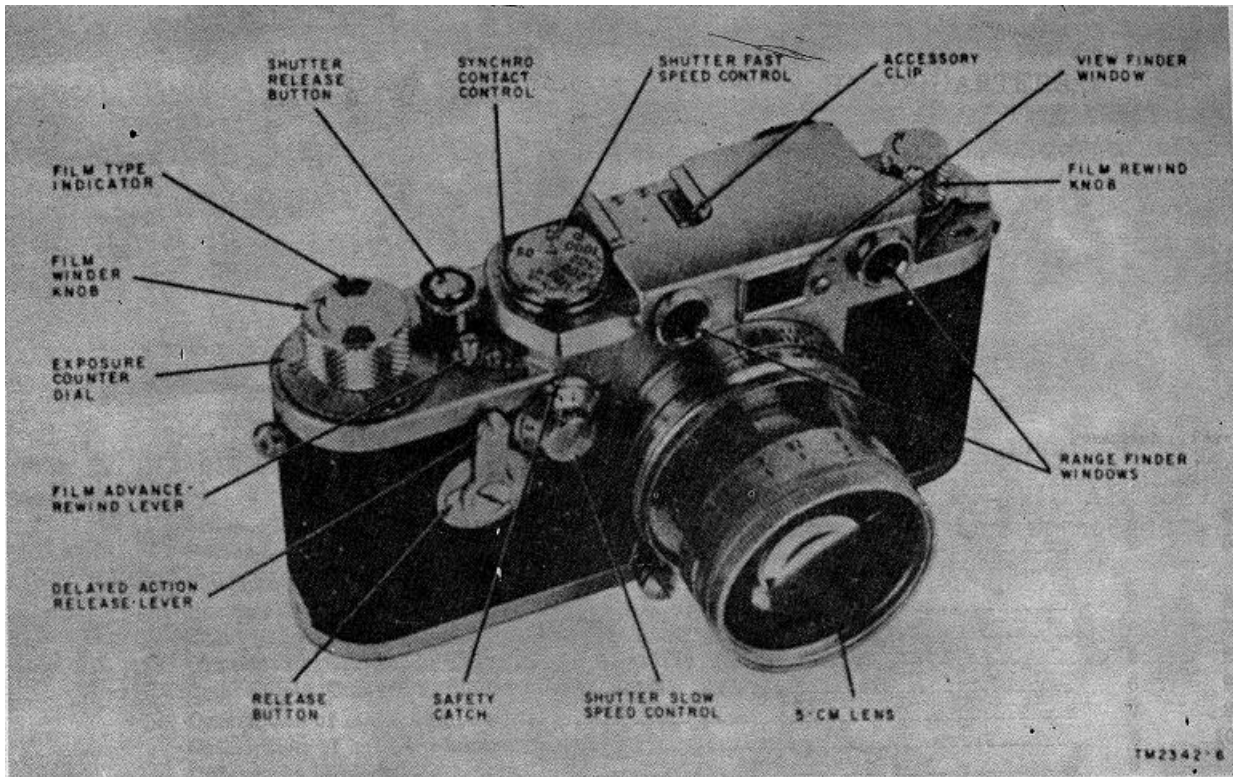

Figure 7. Still Picture Camera Set KS-15(1), camera component, front view.
c. Operate the film advance-rewind lever (figs. 7 and 8) to position A.
- (2) Slowly rotate the film rewind knob (figs. 7 and 8) in the direction of the arrow on the
- (1) Press the shutter release button (figs. 7 and 8) to release the shutter mechanism. Rotate the film winder knob to its stop. During this operation, observe the film rewind knob. If the film rewind knob fails to rotate while the film winder knob is being operated, proceed as follows: